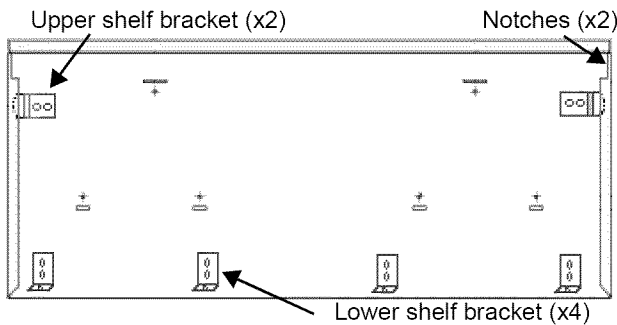

Figure 19: 48" Back of Wall Plate
- Mount the (2) top shelf brackets and the (3) lower shelf brackets at the locations outlined on the templates. Secure with (10) 1" (25.4mm) screws provided.
- Insert (3) U-Nuts onto the (3) lower shelf brackets.
- Install the wall plate by setting the corner notches (back of wall plate) atop the (2) top shelf brackets. Slide the shelf upwards until the bottom engages with the (3) lower brackets on the 30" & 36" models and (4) brackets for the 48" models (*Figure 19*).